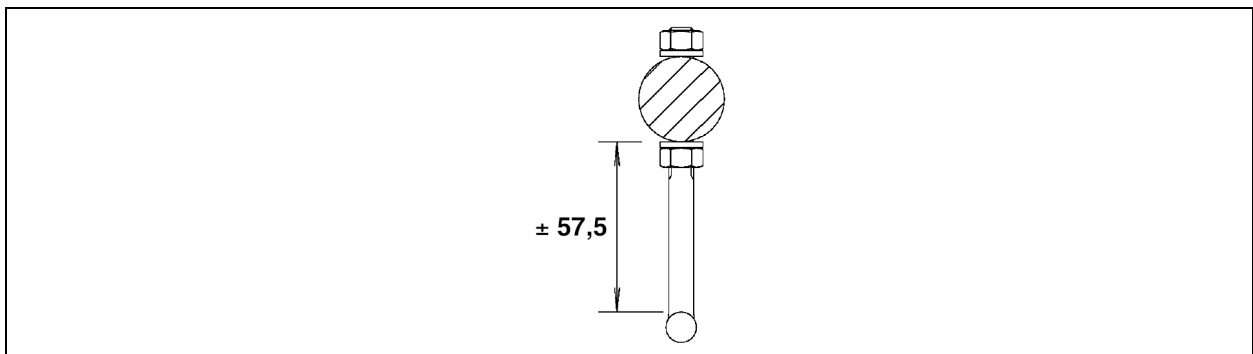

Fig. 132 - Length of arm
1. Adjust the length of the arm (2x) on the closer's main shaft in accordance with fig. 132.